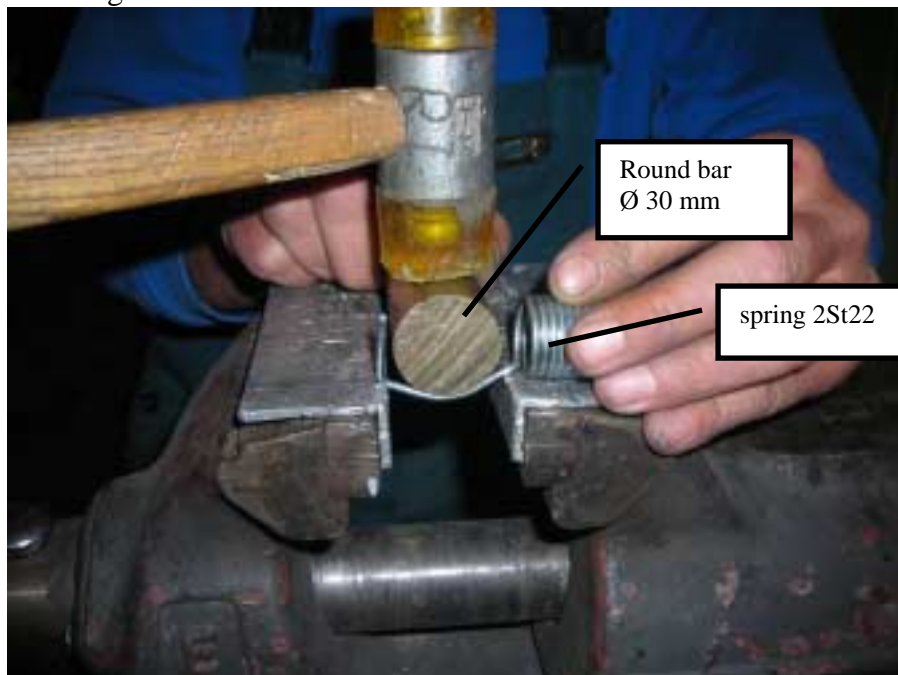

figure 14: Deforming the spring 2St22
10. Deform the spring 2St22 at a vice according to drawing figures 14 and 15. New designation is 2St22/2.